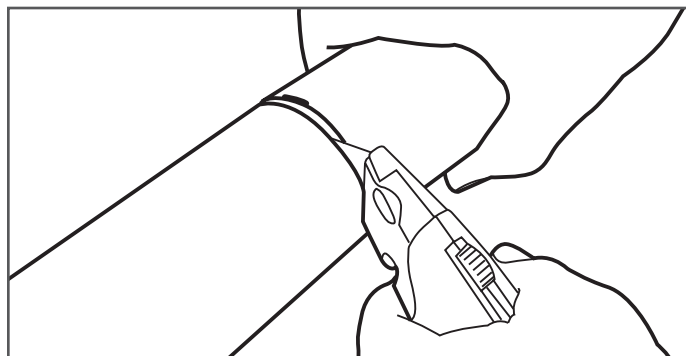

Figure 7-3
4. Finish cutting through the outer jacket down to the stainless corrugated pipe using a sharp utility knife (Figure 7-3).